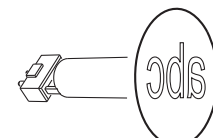

Figure 19. Correct gobo orientation
The orientations shown in Figure 19 are correct in most cases, but consult your Martin dealer or gobo supplier if you are in any doubt about the orientation of a specific gobo type.
Correct gobo orientation is critical. Read the guidelines in Figure 19 carefully before installing a gobo.
9. Insert the new gobo in the holder with that must face towards the lamp – the more reflective side – facing upwards towards the spring (see Figure 22 and Figure 19).